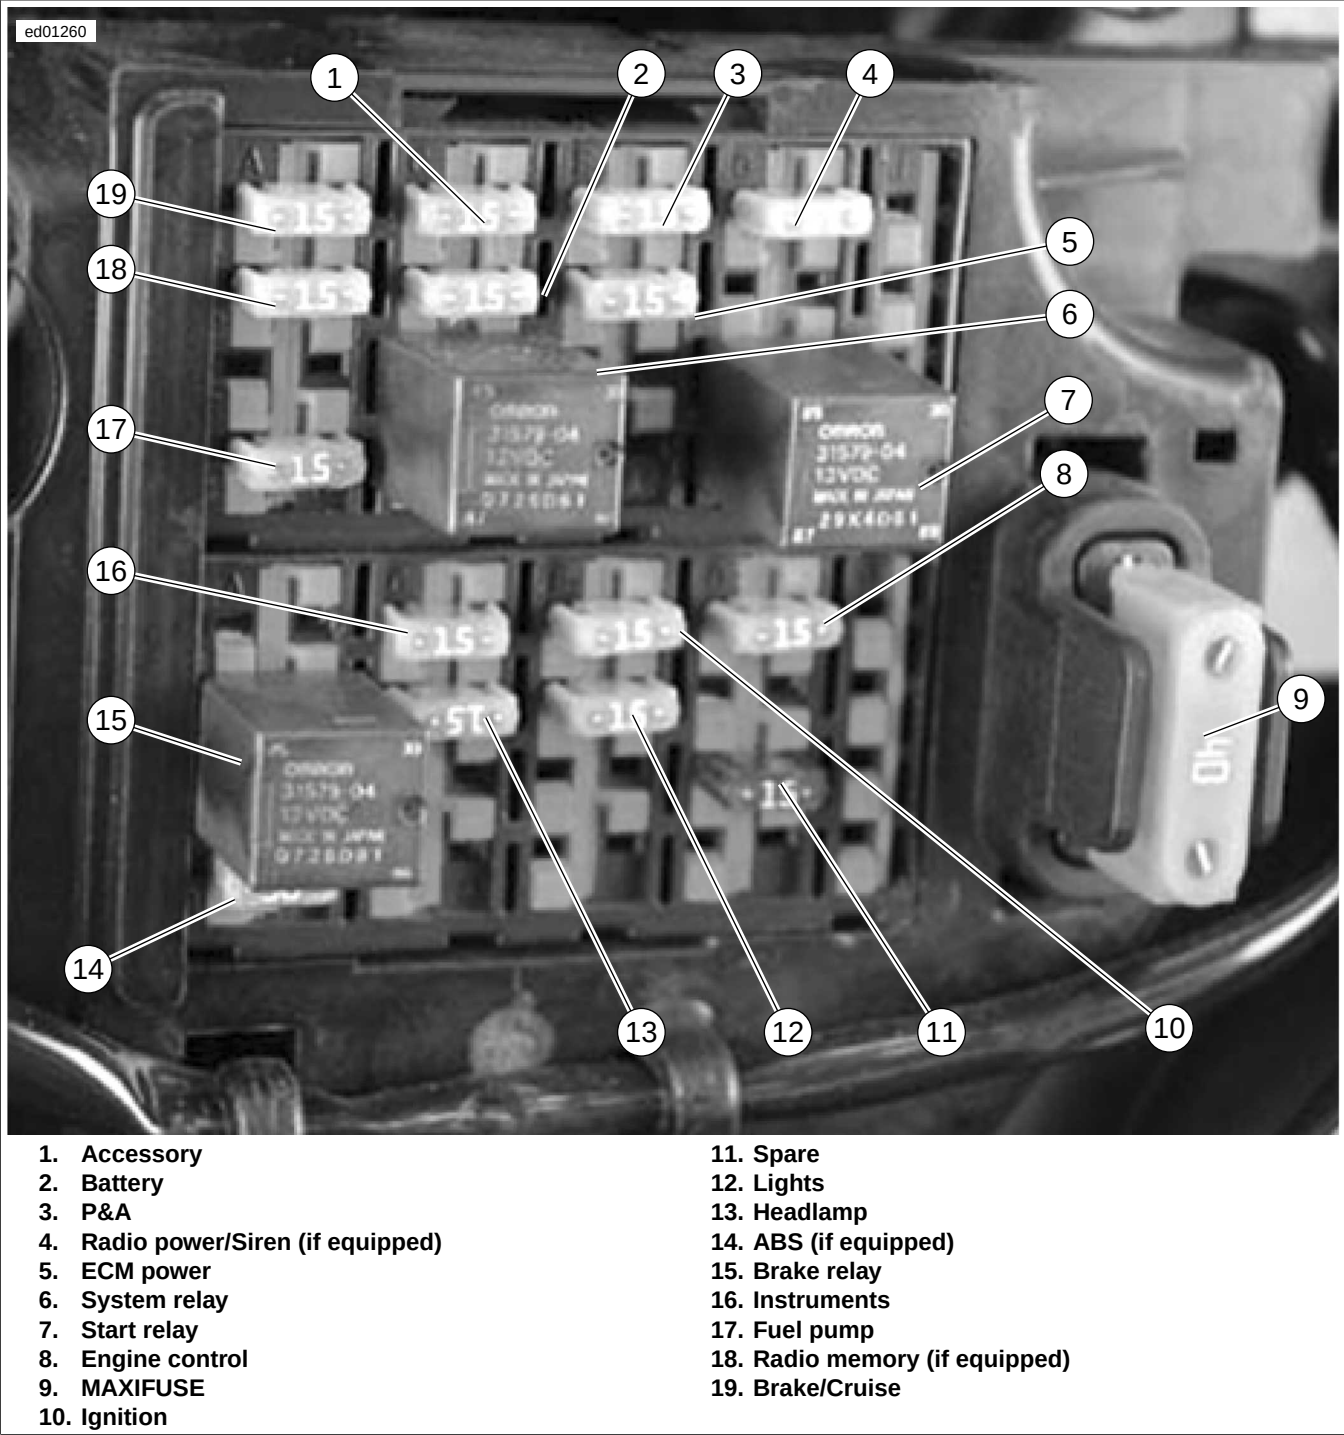

Figure 4-30. Fuse and Relay Locations
See Figure 4-30. The fuel pump fuse is located on the fuse block behind the left side cover. The fuel pump can be turned on with the DIGITAL TECHNICIAN (Part No. HD-44750) or by applying battery voltage to the fuel pump fuse.
- a. See Figure 4-30. Unplug fuel pump fuse from fuse block.
7. See Figure 4-30. Install fuel pump fuse.